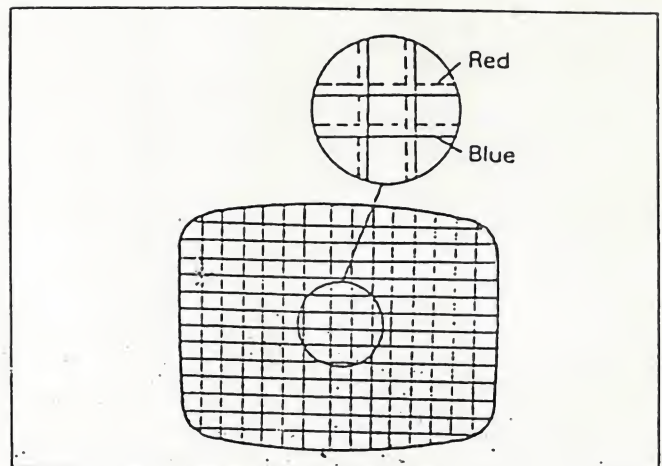

Fig. 2-5
5. Turn the green cutoff VR full clockwise and adjust the two 6 pole convergence magnets so that the green and magenta become overlapped throughout the picture area to yield white. (Fig. 2-5)